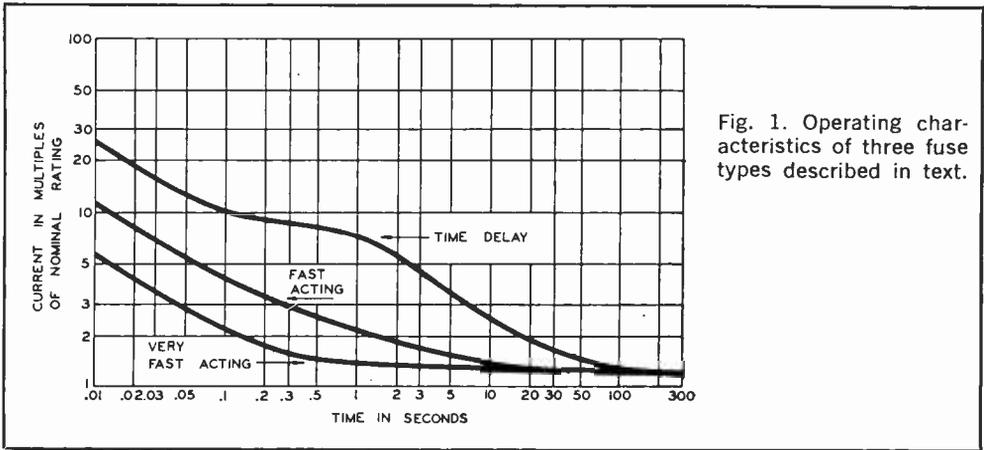

Fig. 1. Operating characteristics of three fuse types described in text.
**Comparing Fuse Characteristics.** Figure 1 shows the operating characteristics of the three types of fuses mentioned above. Consider that all three types carry a one-ampere full load rating but, as can be observed, the blowing time for each is considerably different for a given overload current. For example, when the overload current is 200% (2 amperes), the time-delay fuse takes 18 seconds to blow while the fast-acting fuse opens in approximately 1.4 seconds. A 2-ampere current, through a very fast-acting one-ampere fuse, causes the fuse to blow in 0.13 second.